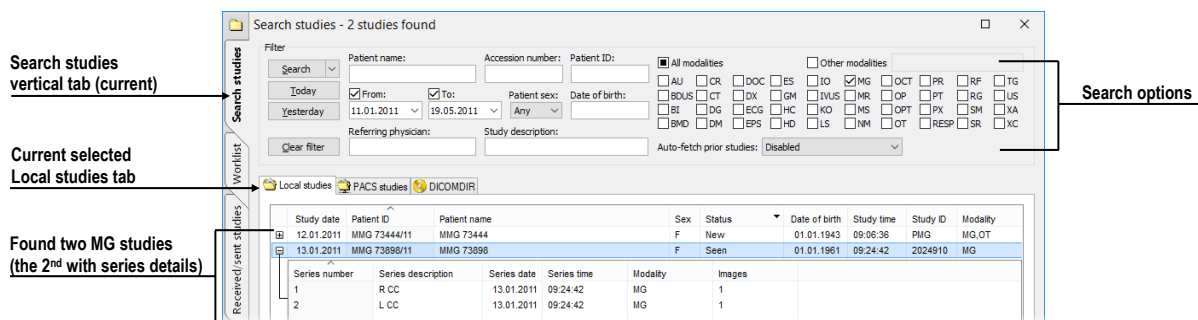

Figure 421 – Opened patient study from the Local studies
- Finding and opening a required study stored in the local studies (see Figure 421) by taking the following steps: